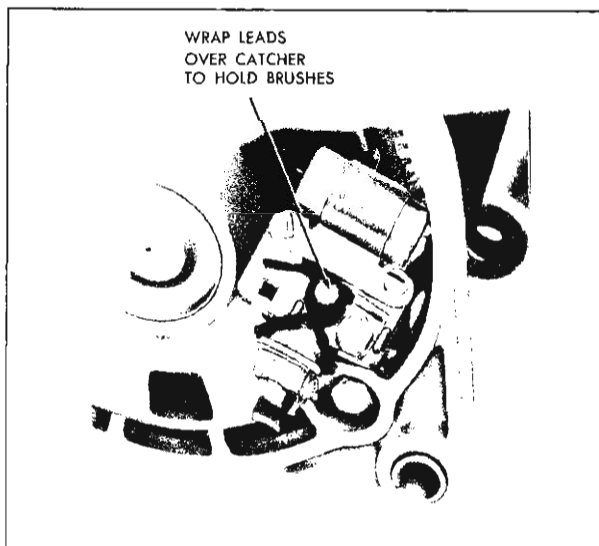

Fig. 34—Brush Replacement—6" Delcotron
4. To install, push brushes up into holder and loop the brush leads over the catcher (fig.34) to keep the brushes in the holder. Attach the assembly to the end frame and lift the brush leads off the catcher to allow brushes to ride on slip rings.